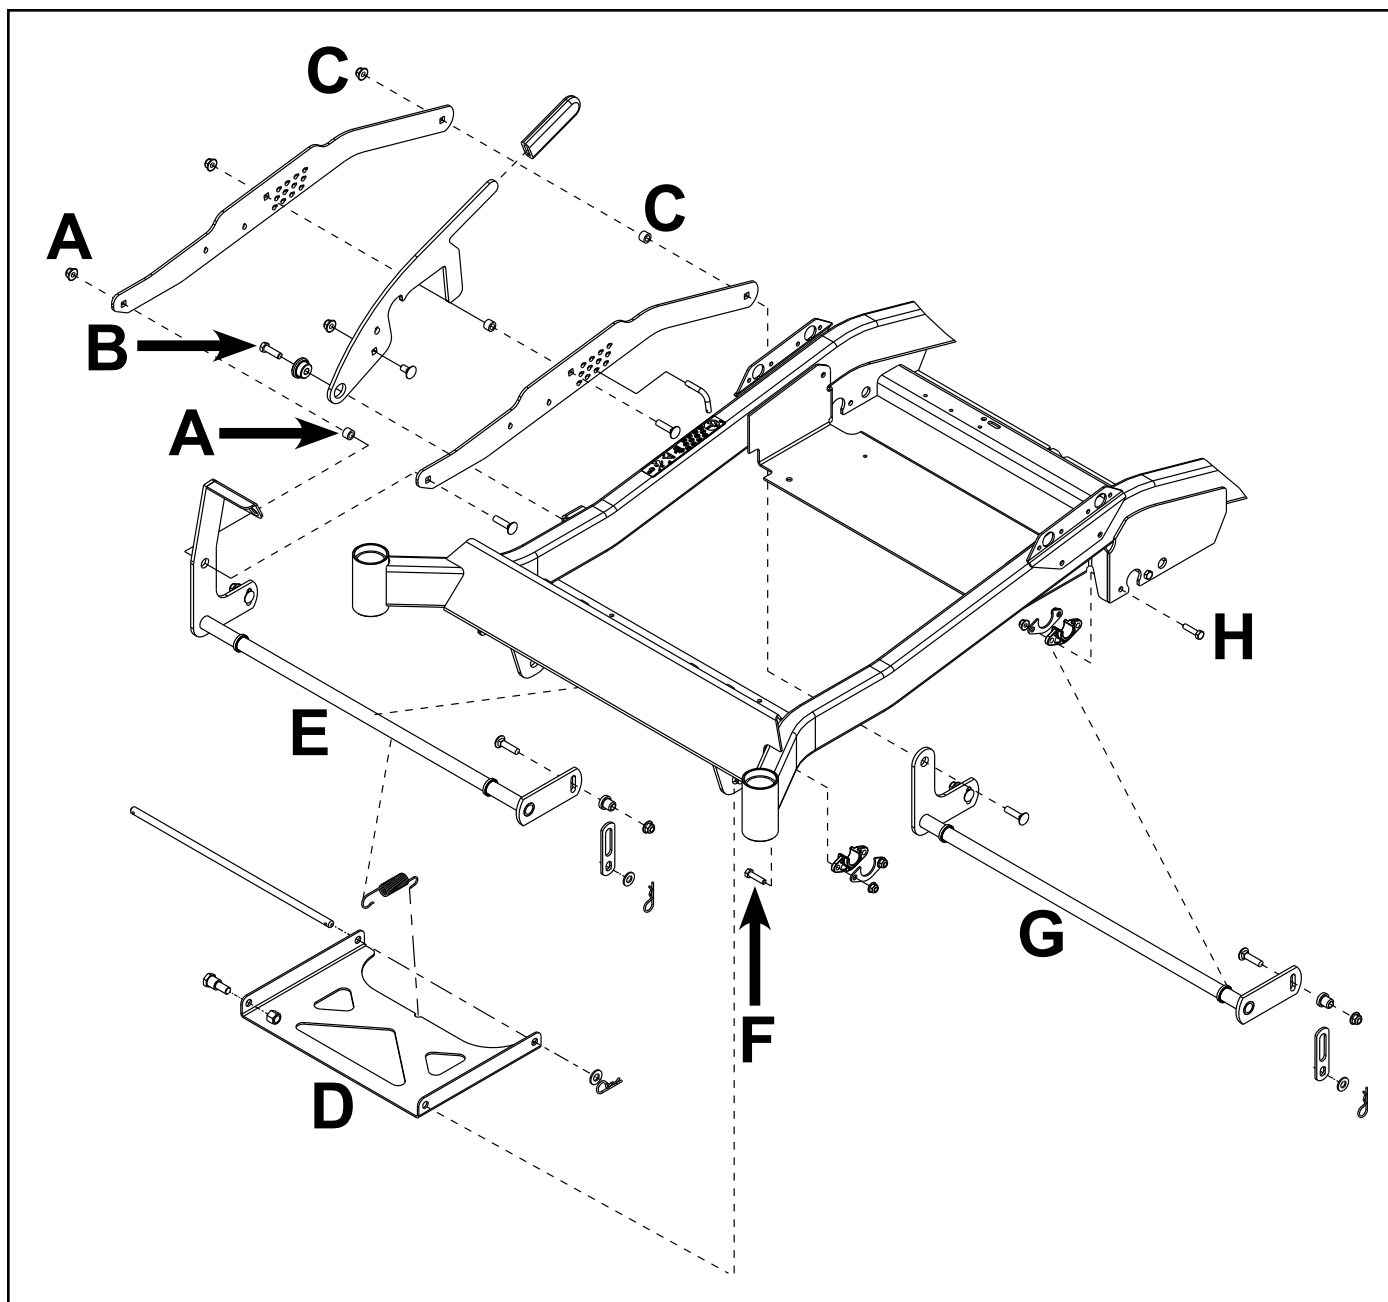

Fig. 041
3. 54 and 60 Inch Units Only - Install the front lift pan (D) and spring to the frame and torque fasteners to specification - 50 ft-lbs. (69 Nm).
4. Install the rear HOC arm fastener (C). Do not tighten at this time.
5. Install the HOC lever pivot fastener and spacer (B). Do not tighten at this time.
6. Install the deck lift foot petal center bolt, nut, and spacer (A).
9. Install and properly route the PTO belt, then install the PTO belt tensioner spring. (Fig. 041, next page)